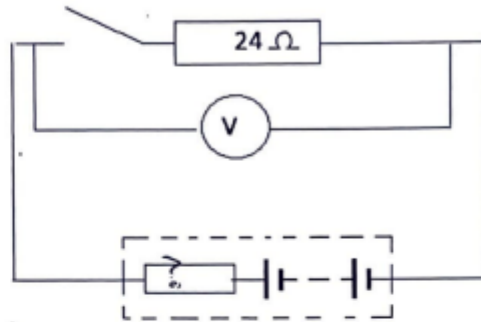

FIG Q9
- (a) the power output for the low setting; (4)
- (b) the power output for the high setting. (4)
9. The circuit in FIG Q9 has a voltmeter as shown. When the switch is open the reading on the voltmeter is 30 V, when the switch is closed the voltage drops to 26.67 V.
- (a) Explain the reason for the change in the voltmeter readings. (4)